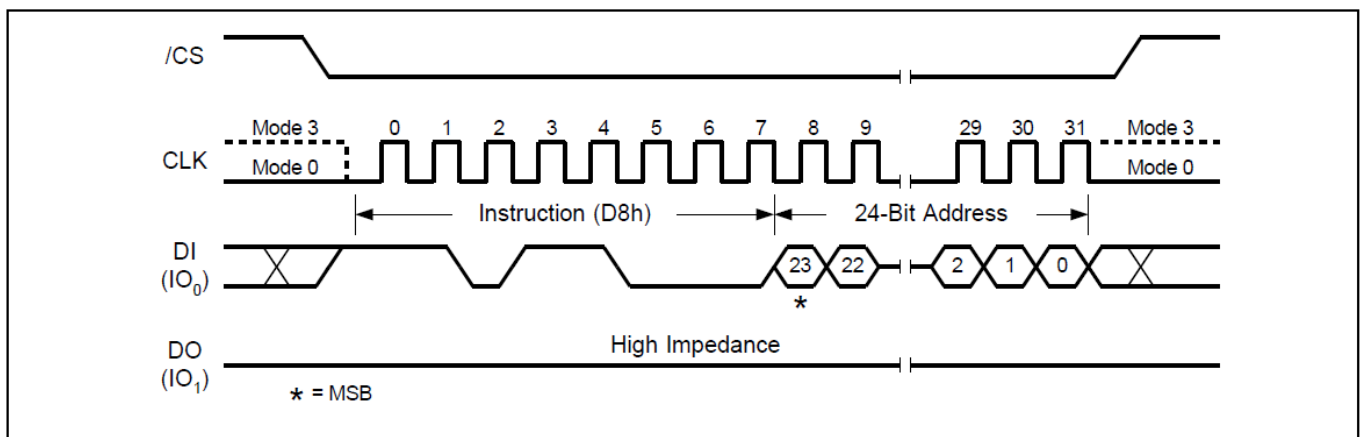

Figure17. 64KB Block Erase Sequence Diagram
The 64KB Block Erase command sequence: CS# goes low → sending 32KB Block Erase command → 3-byte address on DI → CS# goes high. The command sequence is shown in Figure 17. CS# must be driven high after the eighth bit of the last address byte has been latched in; otherwise the 64KB Block Erase (BE) command is not executed. As soon as CS# is driven high, the self-timed Block Erase cycle (whose duration is Tse) is initiated. While the Block Erase cycle is in progress, the Status Register may be read to check the value of the Write in Progress (BUSY) bit. The Write in Progress (BUSY) bit is 1 during the self-timed Block Erase cycle, and is 0 when it is completed. At some unspecified time before the cycle is completed, the Write Enable Latch (WEL) bit is reset. A 64KB Block Erase (BE) command applied to a block which is protected by the Block Protect (SEC, TB, BP2, BP1, and BP0) bits is not executed.